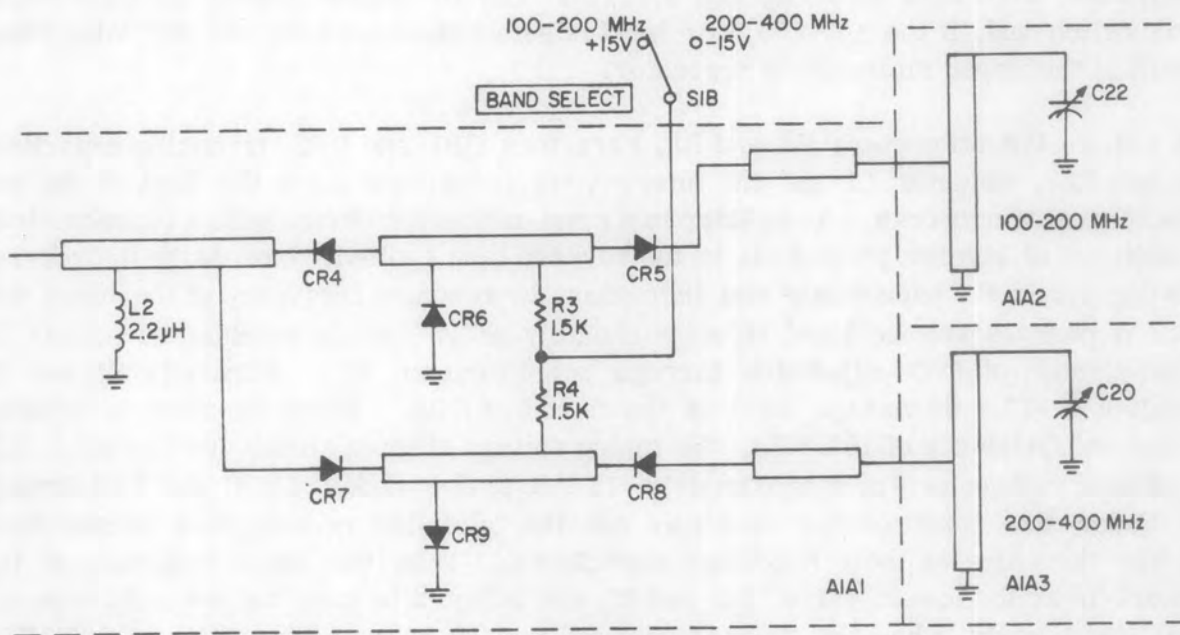

Figure 3-4. Band Select/Pin Diode Switch, Simplified
3.3.1.1.2 The Band Select/Pin Diode Switch is located on the Pin Diode Attenuator sub-assembly. There are two Pin Diode Switch circuits in the VH-107 Tuner. Both circuits are identical in operation and therefore only this one will be described in detail. The other is located on the 60 MHz IF sub-assembly (A4). The Pin Diode Switch applies the RF signal to the required tuning circuit. It is controlled by the front panel BAND SELECT switch which is used to select the tuner band to be used. The BAND SELECT switch controls the bias applied to the pin diodes in the Pin Diode Switch circuit. If the 100-200 MHz band is to be used, the BAND SELECT switch applies a +15 Vdc to the junction of R3 and R4 as shown in the simplified schematic diagram Figure 3-4. Thus CR4 is forward biased through L2, CR5 is forward biased through the ground connection on the micro-strip resonator in, A1A2 and CR6 is reverse biased since its anode is tied to ground. Under this bias condition the three diodes CR4, CR5 and CR6 are biased such that the RF signal is fed through CR4 and CR5 to the 100-200 MHz tuner.